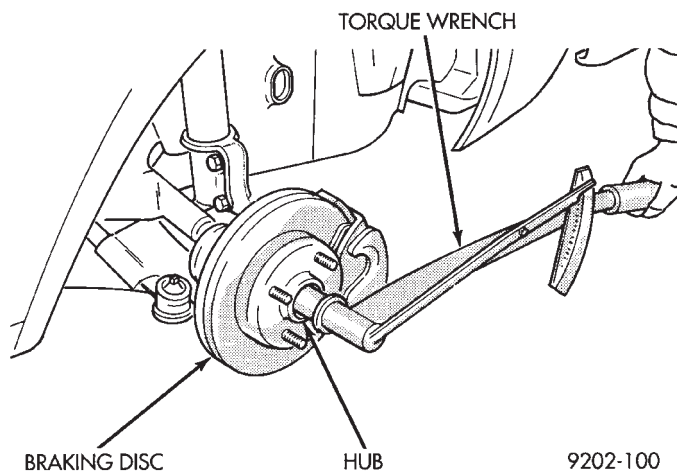

Fig. 24 Torquing Front Hub Nut
(14) With vehicle brakes applied to keep braking disc from turning, tighten hub nut to 244 N·m (180 ft. lbs.) (Fig. 24).